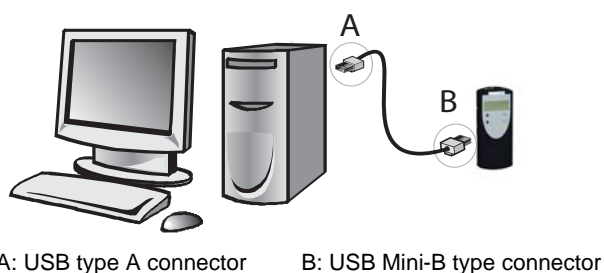

Figure 3
- Insert the SD card in the Multi-Loader and connect the Multi-Loader to the PC with the standard USB type A to Mini-B cable (see **Figure 3** below) . The Multi-Loader is power supply by the PC.